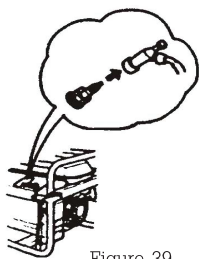

Figure 39
3.1 Disconnect the spark plug cap and the spark plug, clear the dirt around the spark plug (Figure 39)